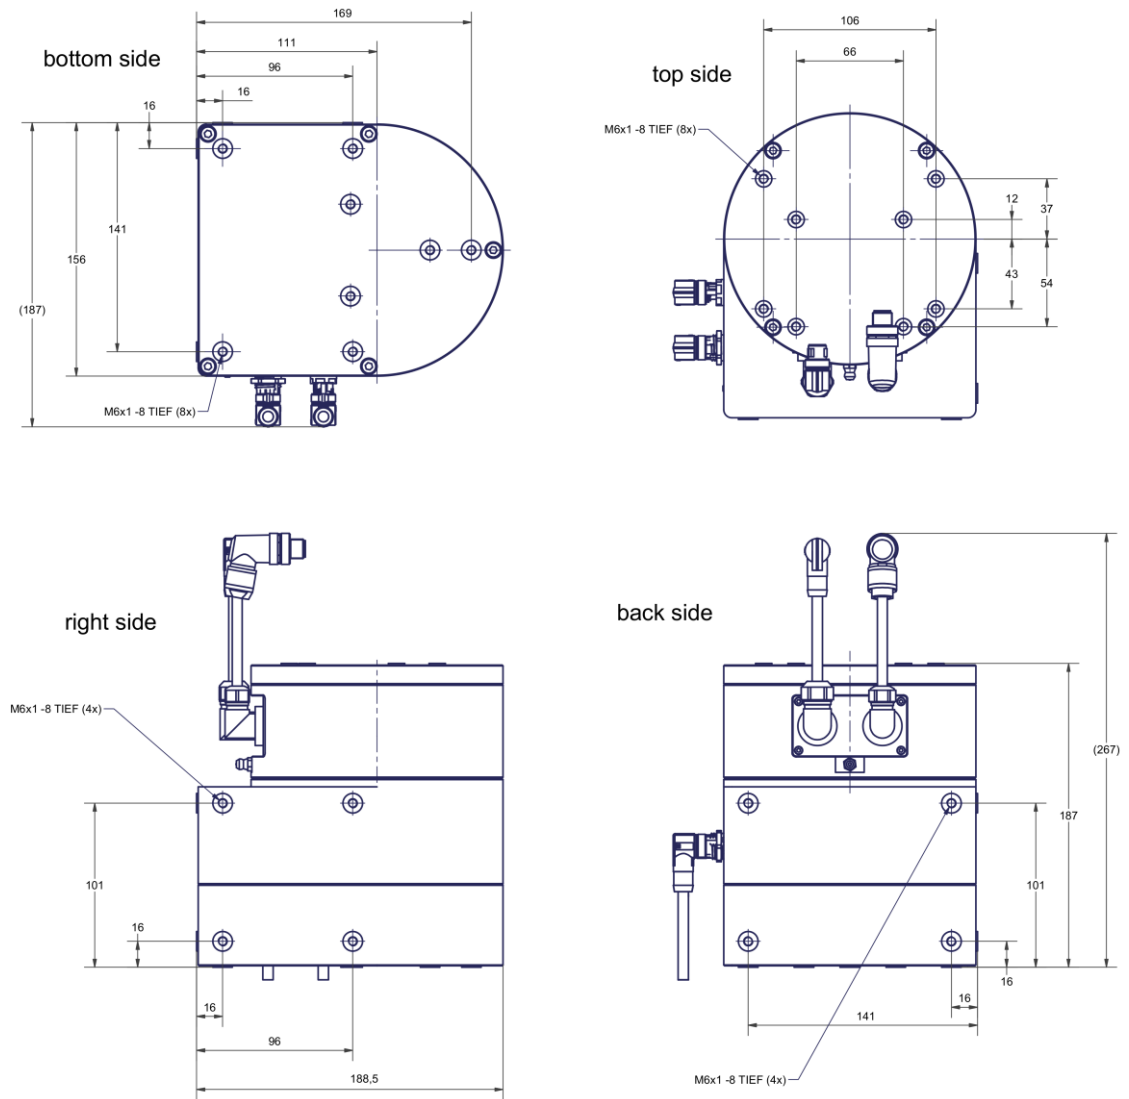

Figure 15: RT360 Rotary Table rev.01 outlines
- Figure 15: RT360 Rotary Table rev.01 outlines 37